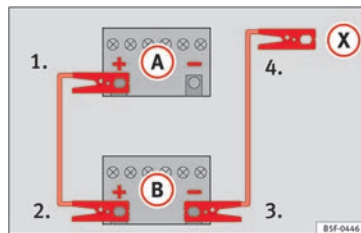

Fig. 79 Diagram of connections for vehicles without Start Stop system
2. Connect one end of the *red* jump lead to the positive (+) terminal of the vehicle with the flat battery (A) » Fig. 79.
3. Connect the other end of the *red* jump lead to the positive terminal (+) in the vehicle providing assistance (B).
- 4a. *For vehicles without Start-Stop system:* connect one end of the *black* jump lead to the negative terminal (-) of the vehicle providing the current (B) » Fig. 79.